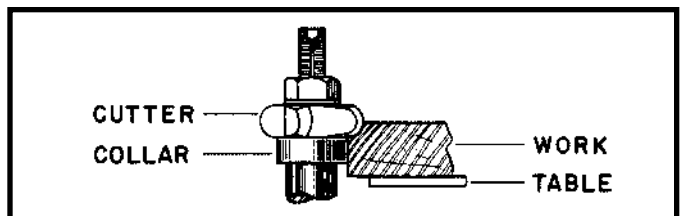

Fig. 32
2. When the collar is used below the cutter (Fig. 32), the operator can see the progress of the cut. **NOTE:** Any accidental lifting of the work will gouge the wood and ruin the workpiece.